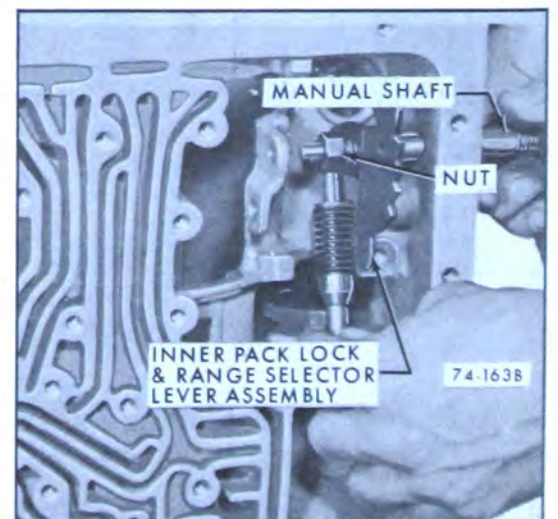

Figure 74-163
4. Slide manual shaft out of case. Remove nut, inner park lock and range selector lever assembly. See Figure 74-163.